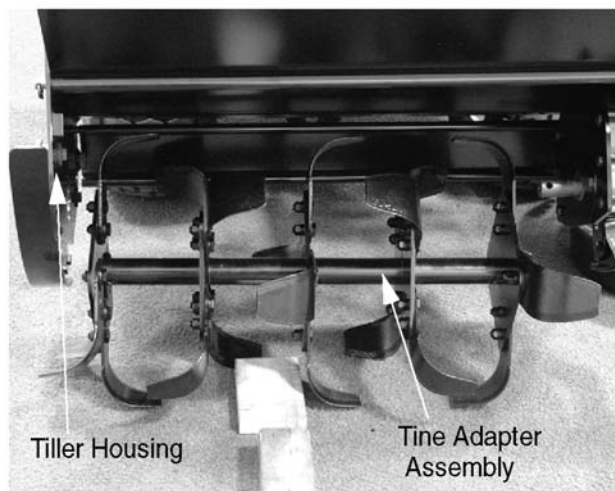

Figure 8-110.
- Slide the tine adapter assembly to the left, lower and remove it from the tiller housing. See Figure 8-110.